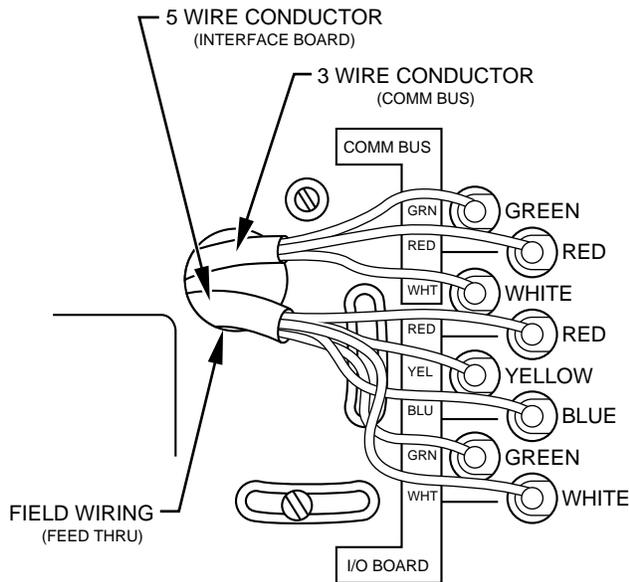

Fig. 18—Wiring Four Zone Controller
2. Pull 3-wire cable for communication bus and 5-wire cable for controller through 3/4-in. round hole on base plate. Three-wire cable and 5-wire cable must be separate jacketed wiring. Do not use one 8-wire cable. (See Fig. 18.)